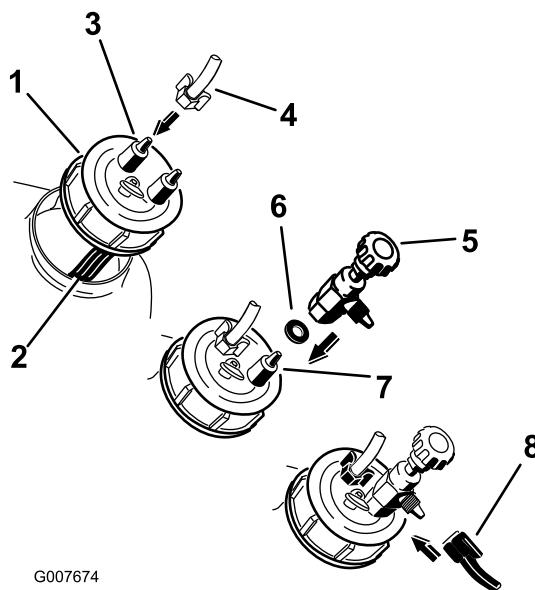

Figure 15
2. Install the 3-foot loop-back hose and cap mount regulating valve to the black cap (Figure 15).